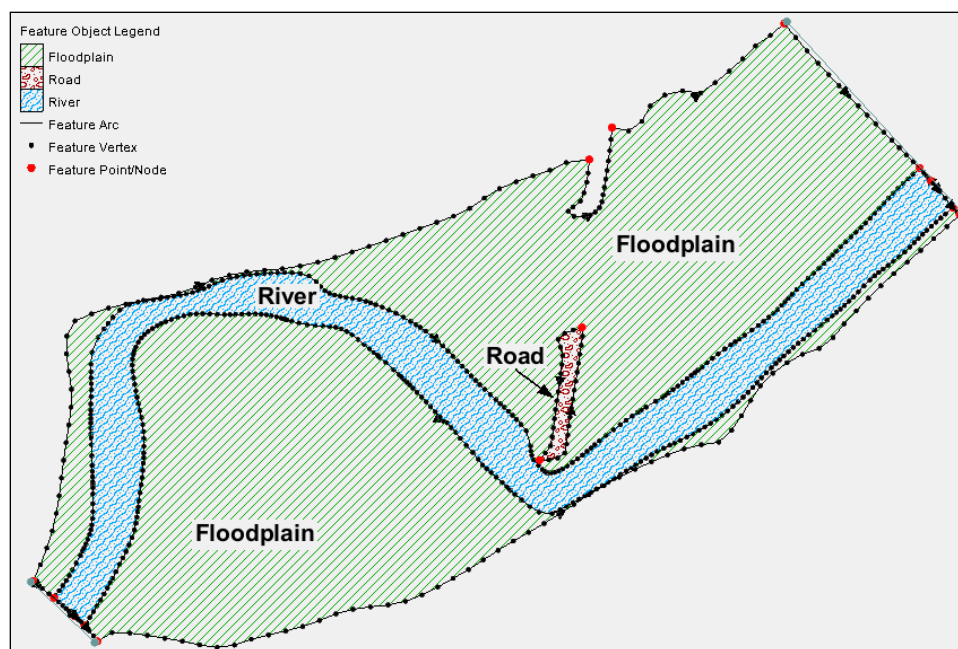

Figure 4 Material types of the four polygons
4. Select the appropriate material type for that zone, as shown in Figure 4 below.